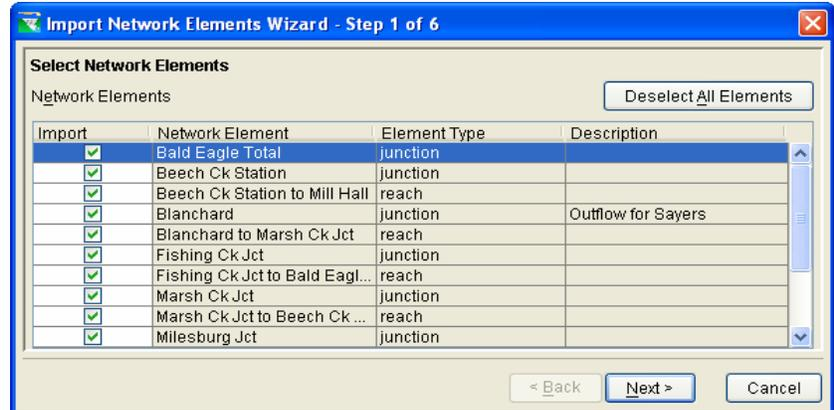

Figure 11.127 Select Network Elements for Data to be Imported
2. Select the network elements that you would like to import physical and operational data to from an existing network by checking the **Import** boxes to the left of the **Network Element** names (Figure 11.127).